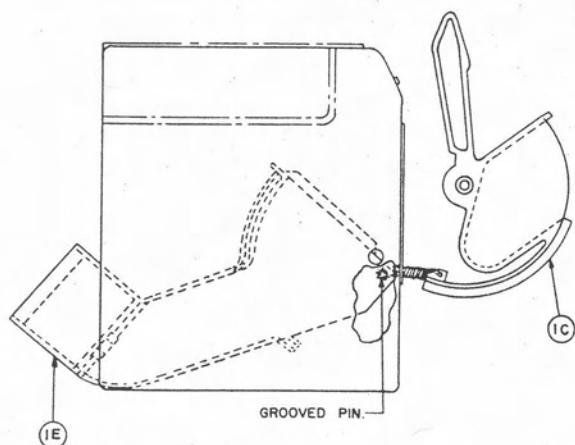

Figure 23. Insertion.
- (w) Place refund chute in approximate location in lower housing with grooved pin to front at coin refund opening (figure 23).